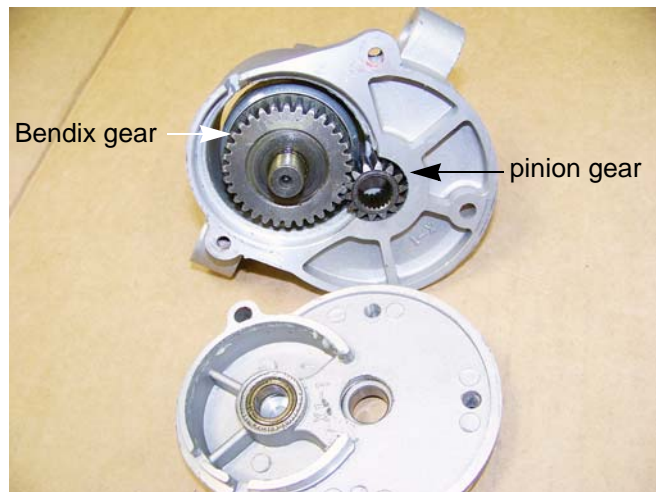

Figure 6.14
18. Separate the starter gear housing. See Figure 6.14.